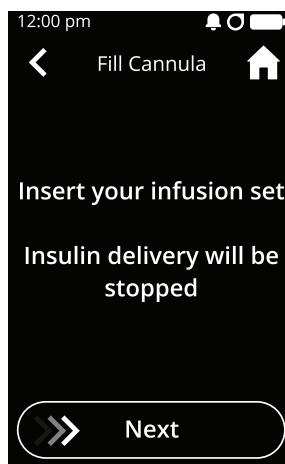

Figure 68
- Drag the **Next** slider to confirm that you have inserted a new insulin infusion set (see Figure 68).